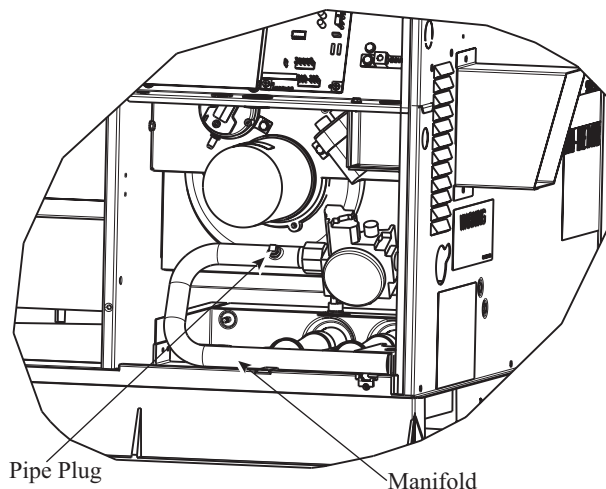

Fig. 1 – Burner Assembly
- a. Remove pipe plug on manifold (See Fig. 1). Screw-in a 1/8" NPT brass hose barb and connect manometer by sliding connecting hose over the barb.
- a. If using a hoses barb on the manifold pipe, remove hoses barb and replace with pipe plug on the manifold (see Fig. 1).